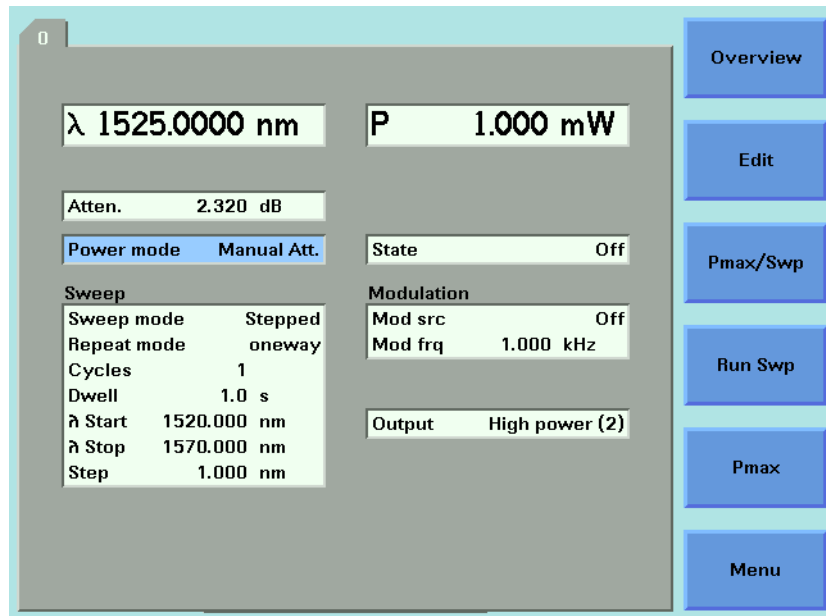

Figure 65 Setting Attenuation
- b Move to <Manual Att.> and press Enter. The attenuation parameter, [Atten.], appears, see Figure 65 .